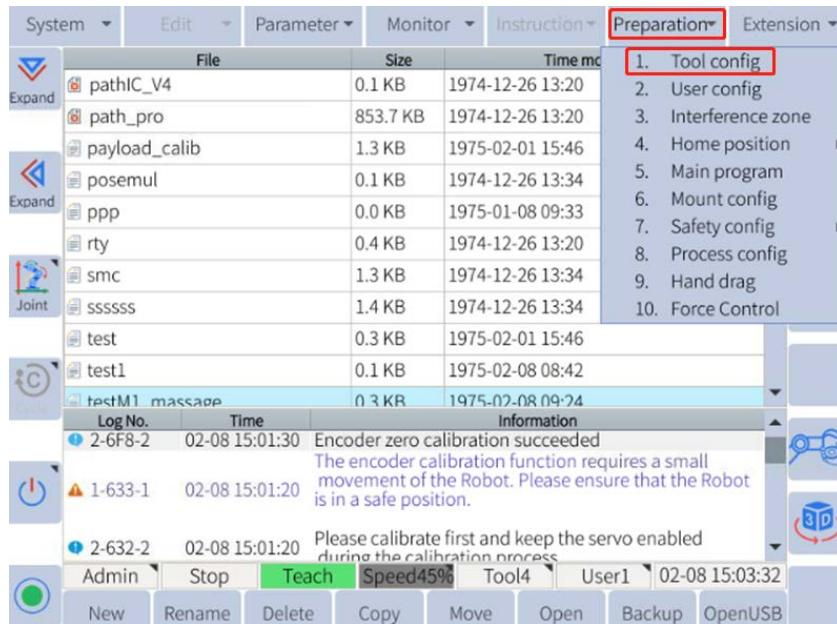

Figure 6-45: Inertia identification display
- Click **Preparations->Tool config->Inertia** in the top menu bar, as shown in **Figure 6-45**.